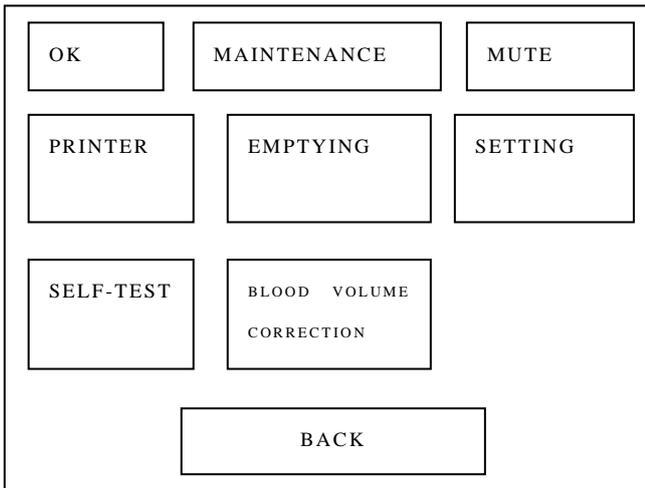
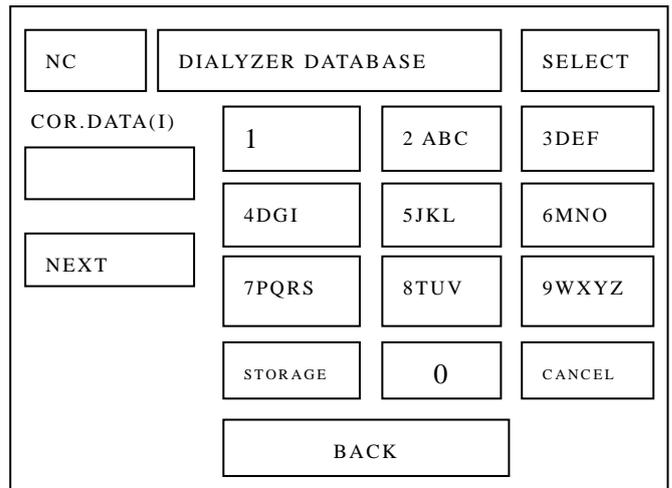

Figure 9-25
Figure 9-26
Blood volume correction runs for blood chamber capacity when user wants to check whether there is something wrong with test datum. Press “BLOOD VOLUME CORRECTION” button (Figure 9-25) to skip into the interface of Figure 9-26, user can press “SELECT” button to choose Set (I) or Set (II) correction.